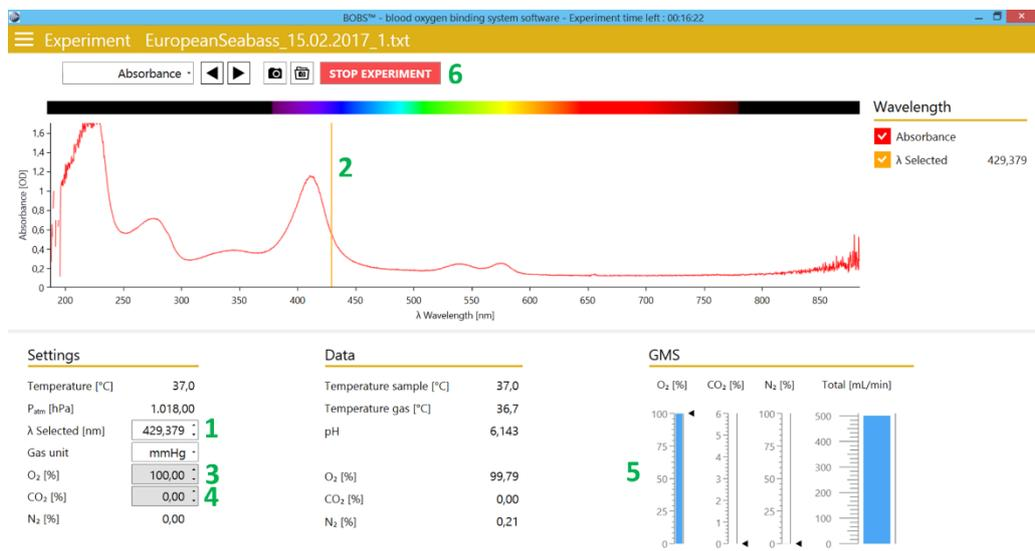

Figure 22: Manual experiment.
5. Set the desired wavelength by entering the value in the corresponding text field (1) or by positioning the vertical bar in the spectrum tab (2, Figure 22).
and cannot be changed. Bar graphs display gas set points and current readings (5, Figure 22).
7. Stop the experiment once completed (6, Figure 22)
7. Set the desired wavelength by entering the value in the corresponding text field (1) or by positioning the vertical bar in the spectrum tab (2, Figure 22).